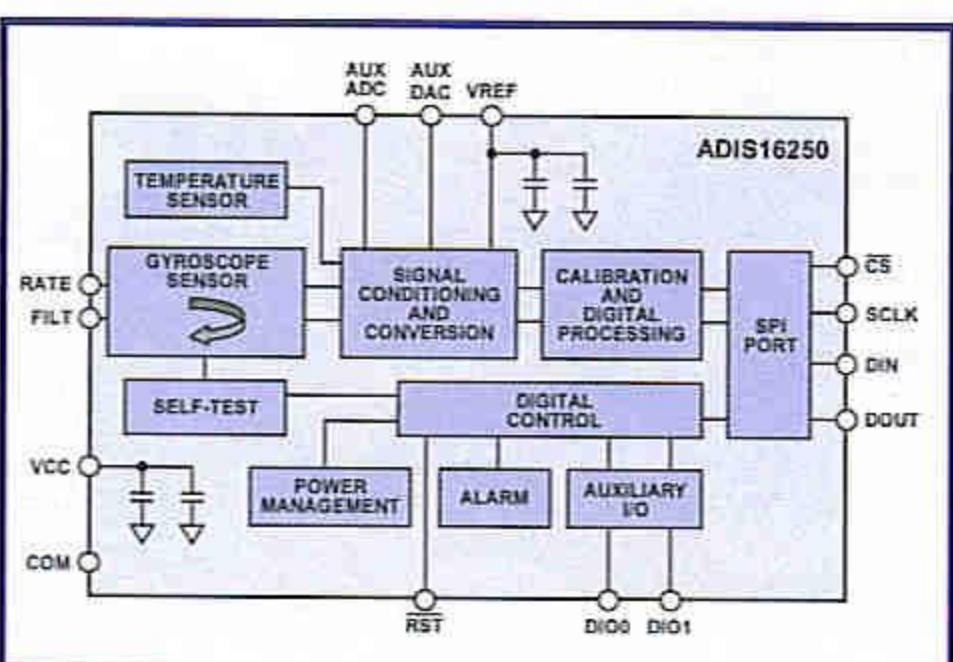

Figure 8.
**Figure 8** shows a gyroscope module evaluation board from Analog Devices [4]. The filter algorithm used in this device is also known as a Kalman filter. In comparison to simpler filtering techniques Kalman filtering requires the use of a powerful processor (by current day standards). The desired values are the pre-programmed waypoints defining the flight path. These waypoints can be programmed into the on-board navigation computer at the ground station before the flight begins or during flight over a radio link. Alternatively they can be generated automatically by a higher level control loop known as a trajectory planner; this represents a more sophisticated level of vehicular autonomy.